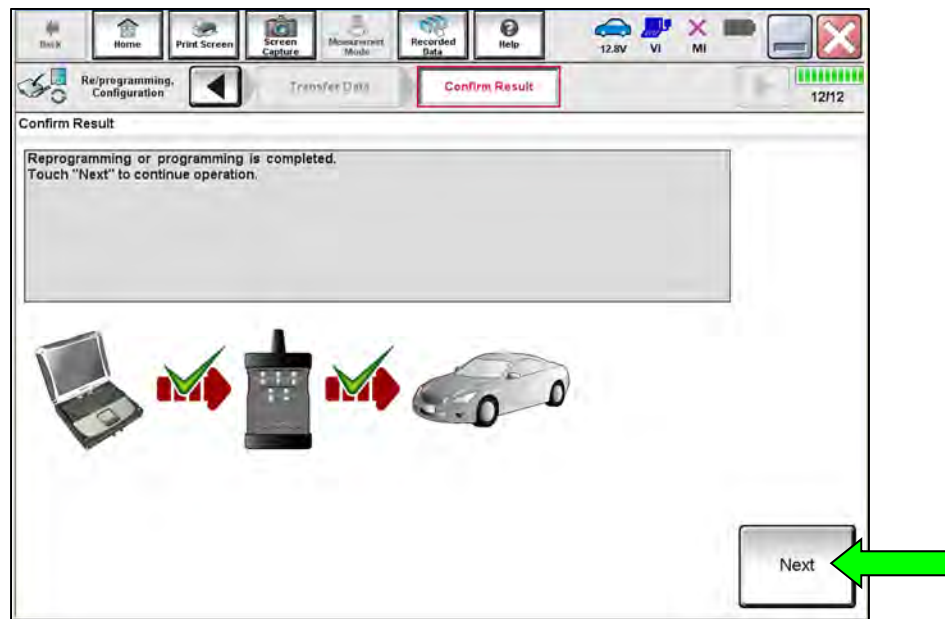

Figure 24
- When the screen in Figure 24 displays, the reprogramming is complete.
- If the screen in Figure 24 does not display (indicating that reprogramming did not complete), refer to **Sonar Control Unit Recovery** on the next page.